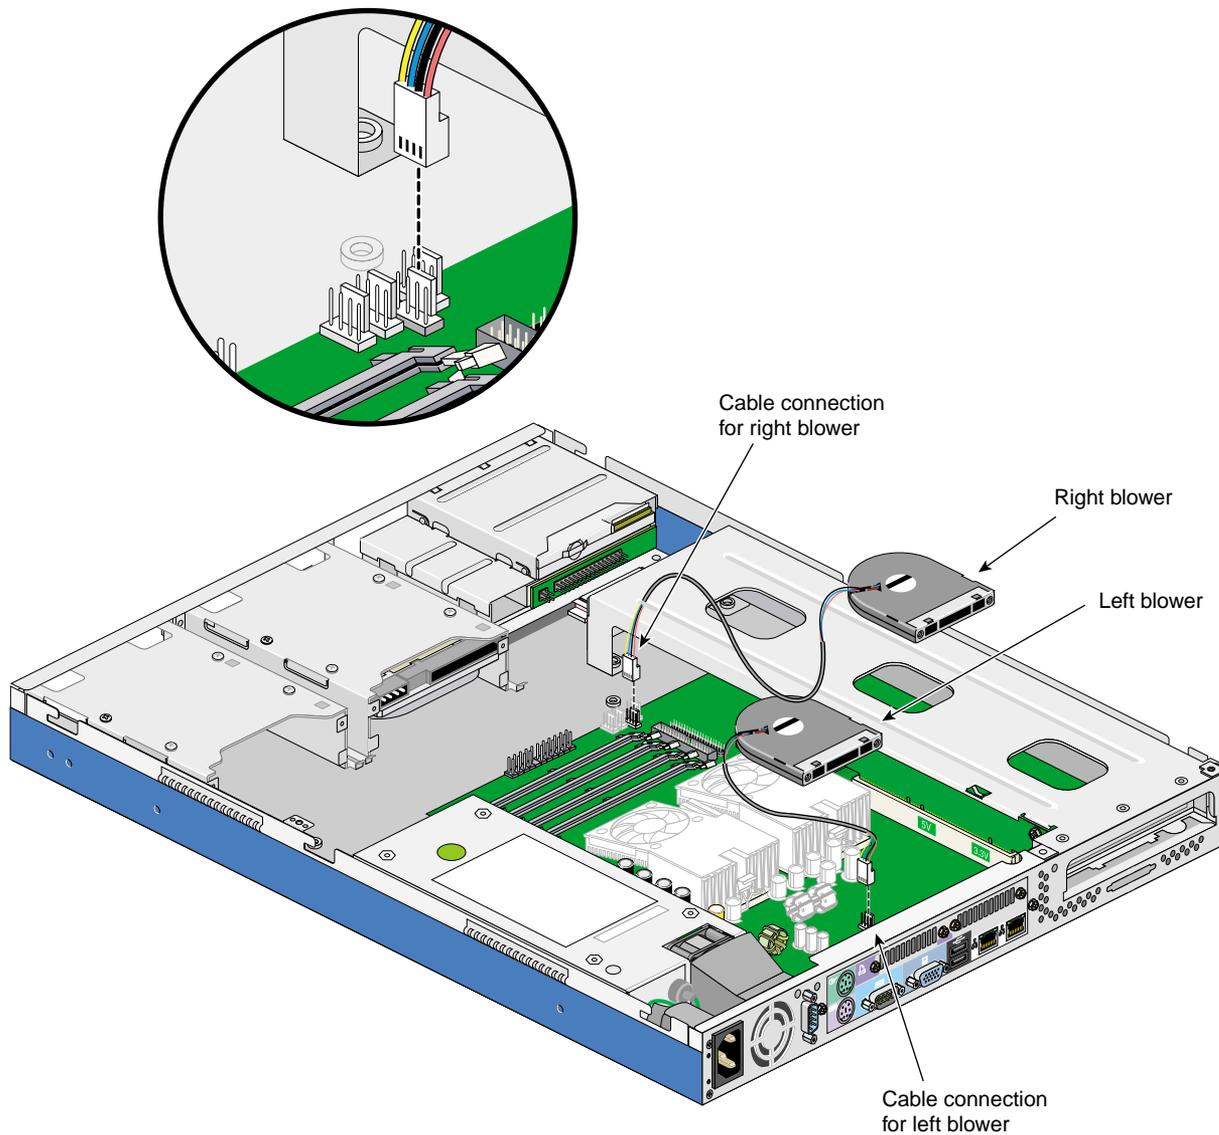

Figure 2-13 Location of the Rear System Blower Cable Connectors
3. Disconnect the blower cables from the connectors on the system board. See Figure 2-13 for the location of the rear chassis blower cable connectors.
2. Connect the rear chassis blower cable to its connector on the system board. The left blower (the one closest to the power supply) plugs into connector CN13 (which is underneath the right blower). The right blower plugs into connector CN23 (which is near the front of the system board). See Figure 2-13 for the locations of the rear chassis blower cable connectors.